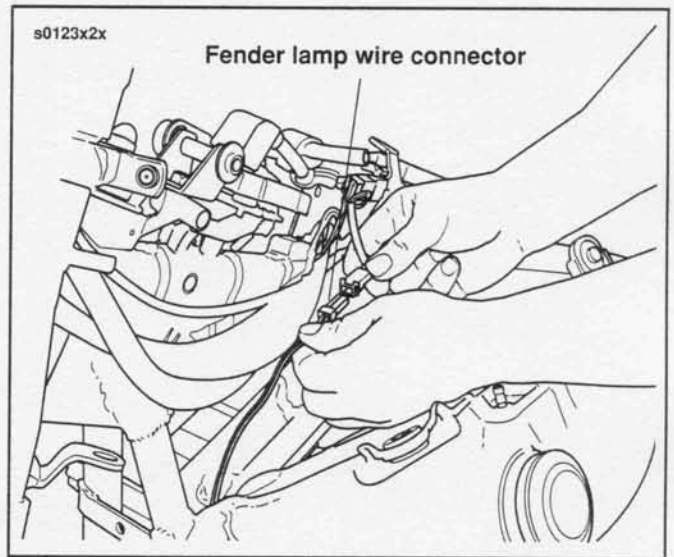

Figure 2-93. Wire Connector– FLSTS
4. See Figure 2-93. Disconnect the fender lamp wire connector from the main wiring harness.
8. See Figure 2-93. Connect fender lamp wire connector to main wiring harness.